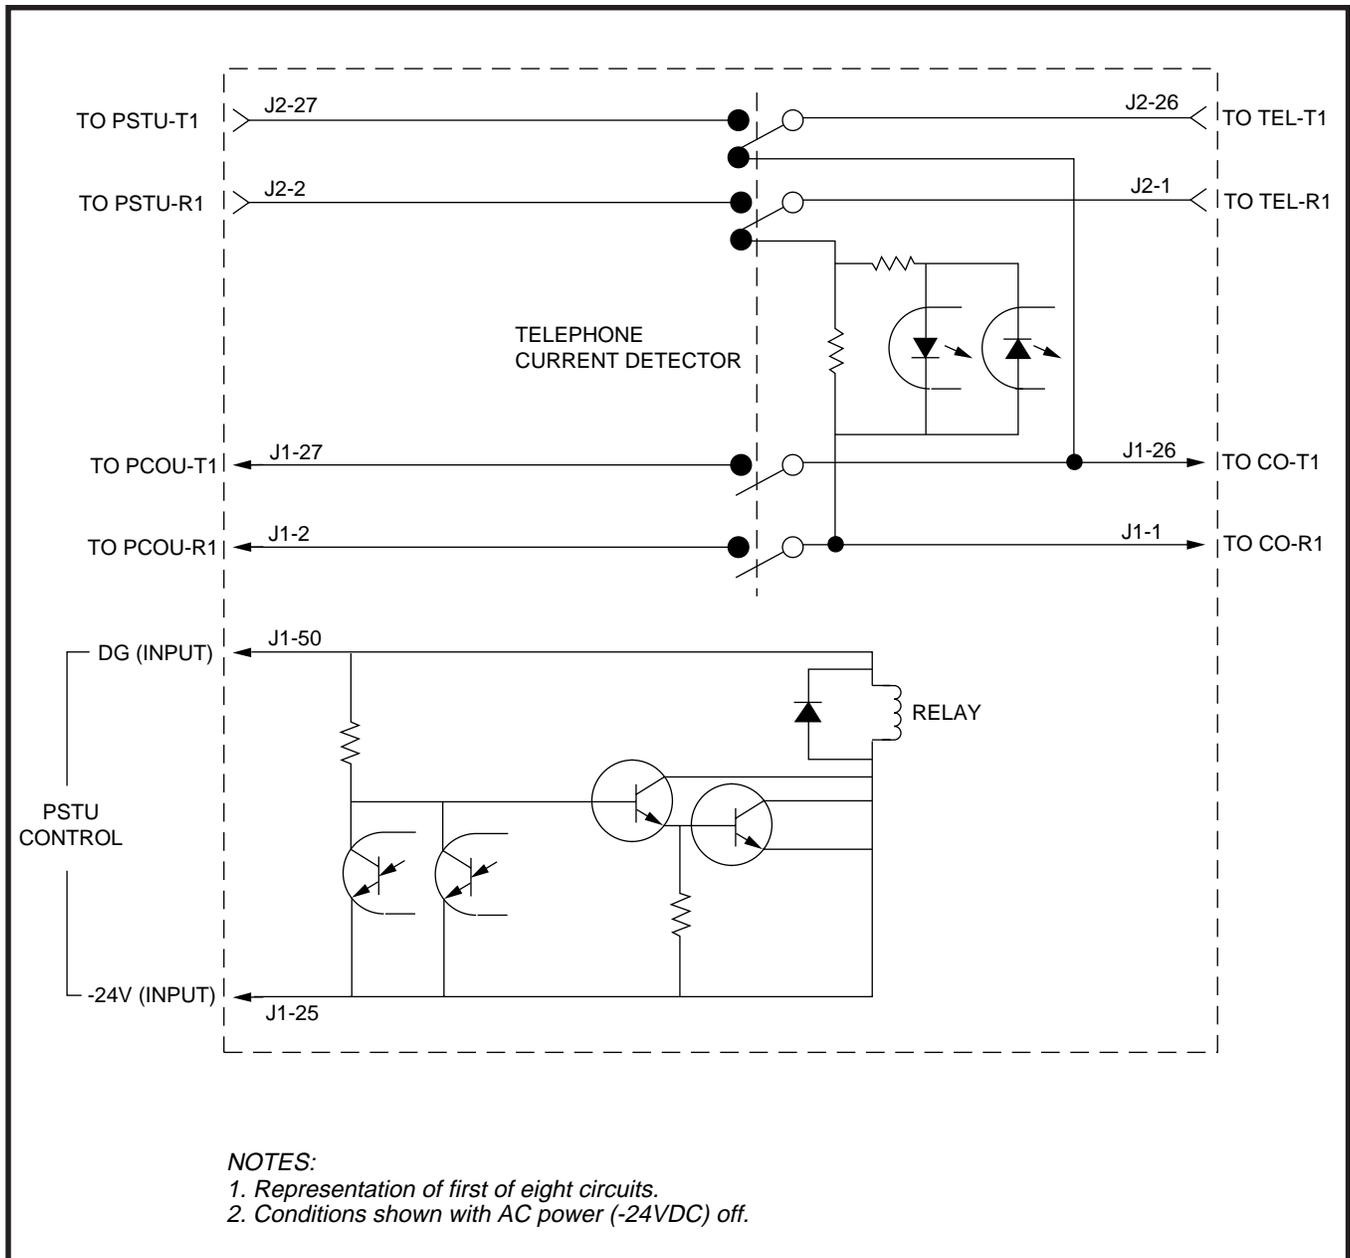

FIGURE 8-2
2.22 Figure 8-2 provides a circuit diagram of the DPFT.